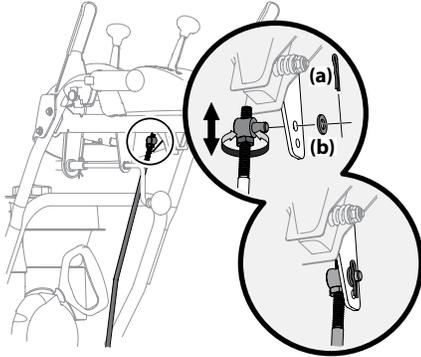

Figure 2-53
2. Remove cotter pin (a) and washer (b) from adjustment ferrule on shift rod and pull it out from shift lever. See Figure 2-53.
4. Rotate ferrule up or down on shift rod as necessary until it lines up with upper hole in shift lever. Refer to Figure 2-53 inset.